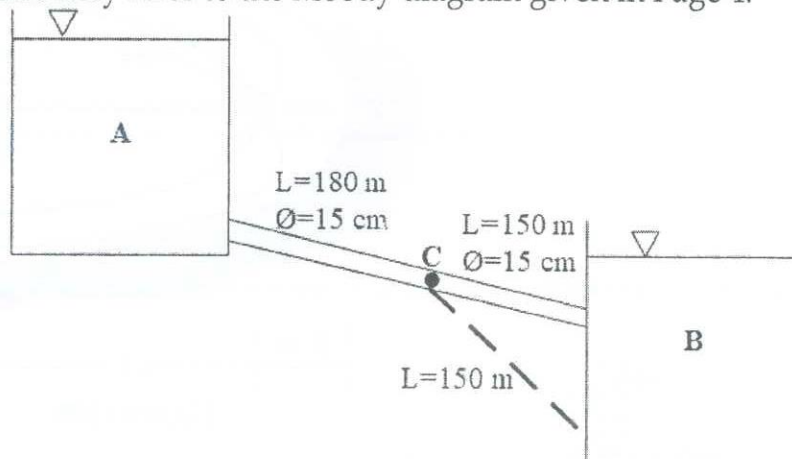

Figure Q2
- Q2. The flowrate between tank A and tank B, shown in Figure Q2, is to be increased by 30% by the addition of a second pipe, indicated in dotted line, running from node C to tank B. If the elevation of the free surface in tank A is 7.5 m, determine the diameter of the new pipe. You may refer to the Moody diagram given in Page 4.